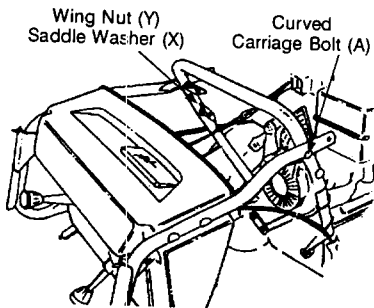

FIGURE 5
- Resting the upper handle control panel assembly on the floor, line up the upper holes in both the upper and lower handle and secure with curved carriage bolts (A), saddle washers (X) and wing nuts (Y). See figure 5.